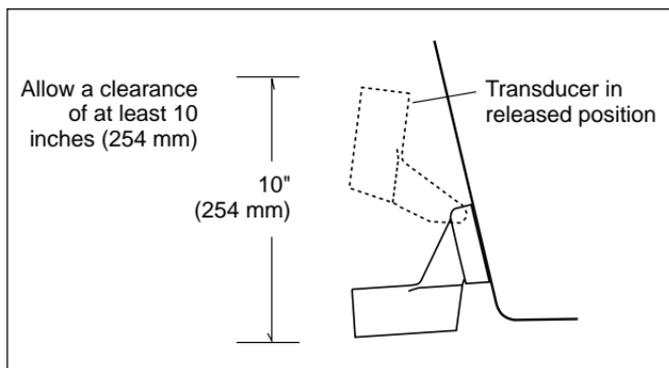

Fig. 2-4
- The bracket has a quick-release mechanism. This prevents damage by allowing the transducer to flip up if it hits any debris or the bottom. See Fig. 2-4. Allow enough clearance above the transducer so that it